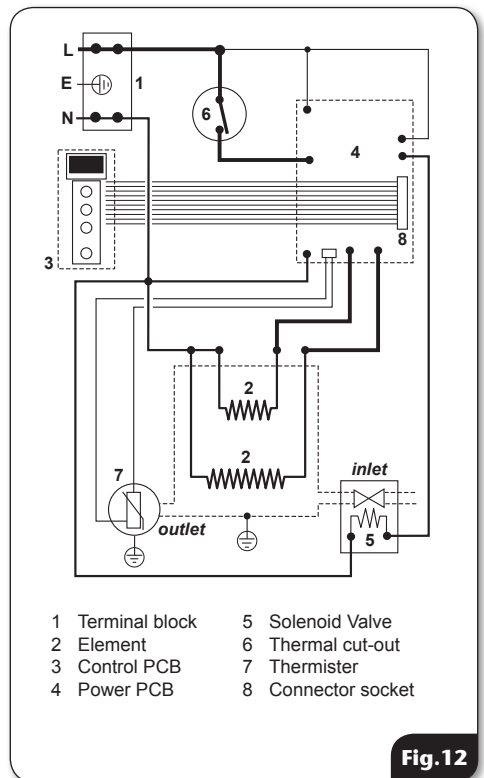

Fig.12
- (**fig.12**) shows a schematic wiring diagram.